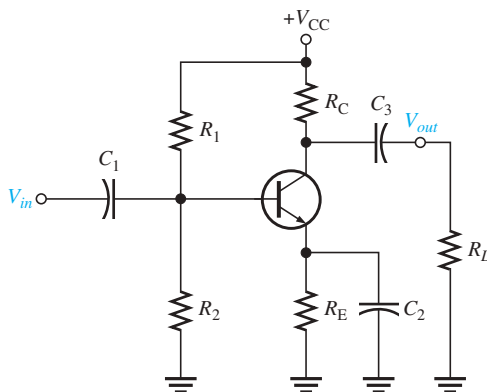

FIGURE 10–8
► **FIGURE 10–7**
A typical capacitively coupled common-emitter amplifier is shown in Figure 10–8. Assuming that the coupling and bypass capacitors are ideal shorts at the midrange signal frequency, you can determine the midrange voltage gain using Equation 10–5, where $R_c = R_C \parallel R_L$.
The BJT amplifier in Figure 10–8 has three high-pass RC circuits that affect its gain as the frequency is reduced below midrange. These are shown in the low-frequency ac equivalent circuit in Figure 10–9. Unlike the ac equivalent circuit used in previous chapters, which represented midrange response ($X_C \cong 0 \Omega$), the low-frequency equivalent circuit retains the coupling and bypass capacitors because X_C is not small enough to neglect when the signal frequency is sufficiently low.
For the circuit in Figure 10–11, calculate the lower critical frequency due to the input RC circuit. Assumed $r'_e = 9.6\ \Omega$ and $\beta = 200$. Notice that a swamping resistor, R_{E1} , is used.
► FIGURE 10–11
A plot of dB voltage gain versus frequency on semilog graph paper (logarithmic horizontal axis scale and a linear vertical axis scale) is called a **Bode plot**. A generalized Bode plot for an input RC circuit appears in Figure 10–12. The ideal response curve is shown in blue. Notice that it is flat (0 dB) down to the critical frequency, at which point the gain drops at -20 dB/decade as shown. Above f_c are the midrange frequencies. The actual response curve is shown in red. Notice that it decreases gradually beginning in midrange and is down to -3 dB at the critical frequency. Often, the ideal response is used to simplify amplifier analysis. As previously mentioned, the critical frequency at which the curve “breaks” into a -20 dB/decade drop is sometimes called the *lower break frequency*.
► FIGURE 10–12